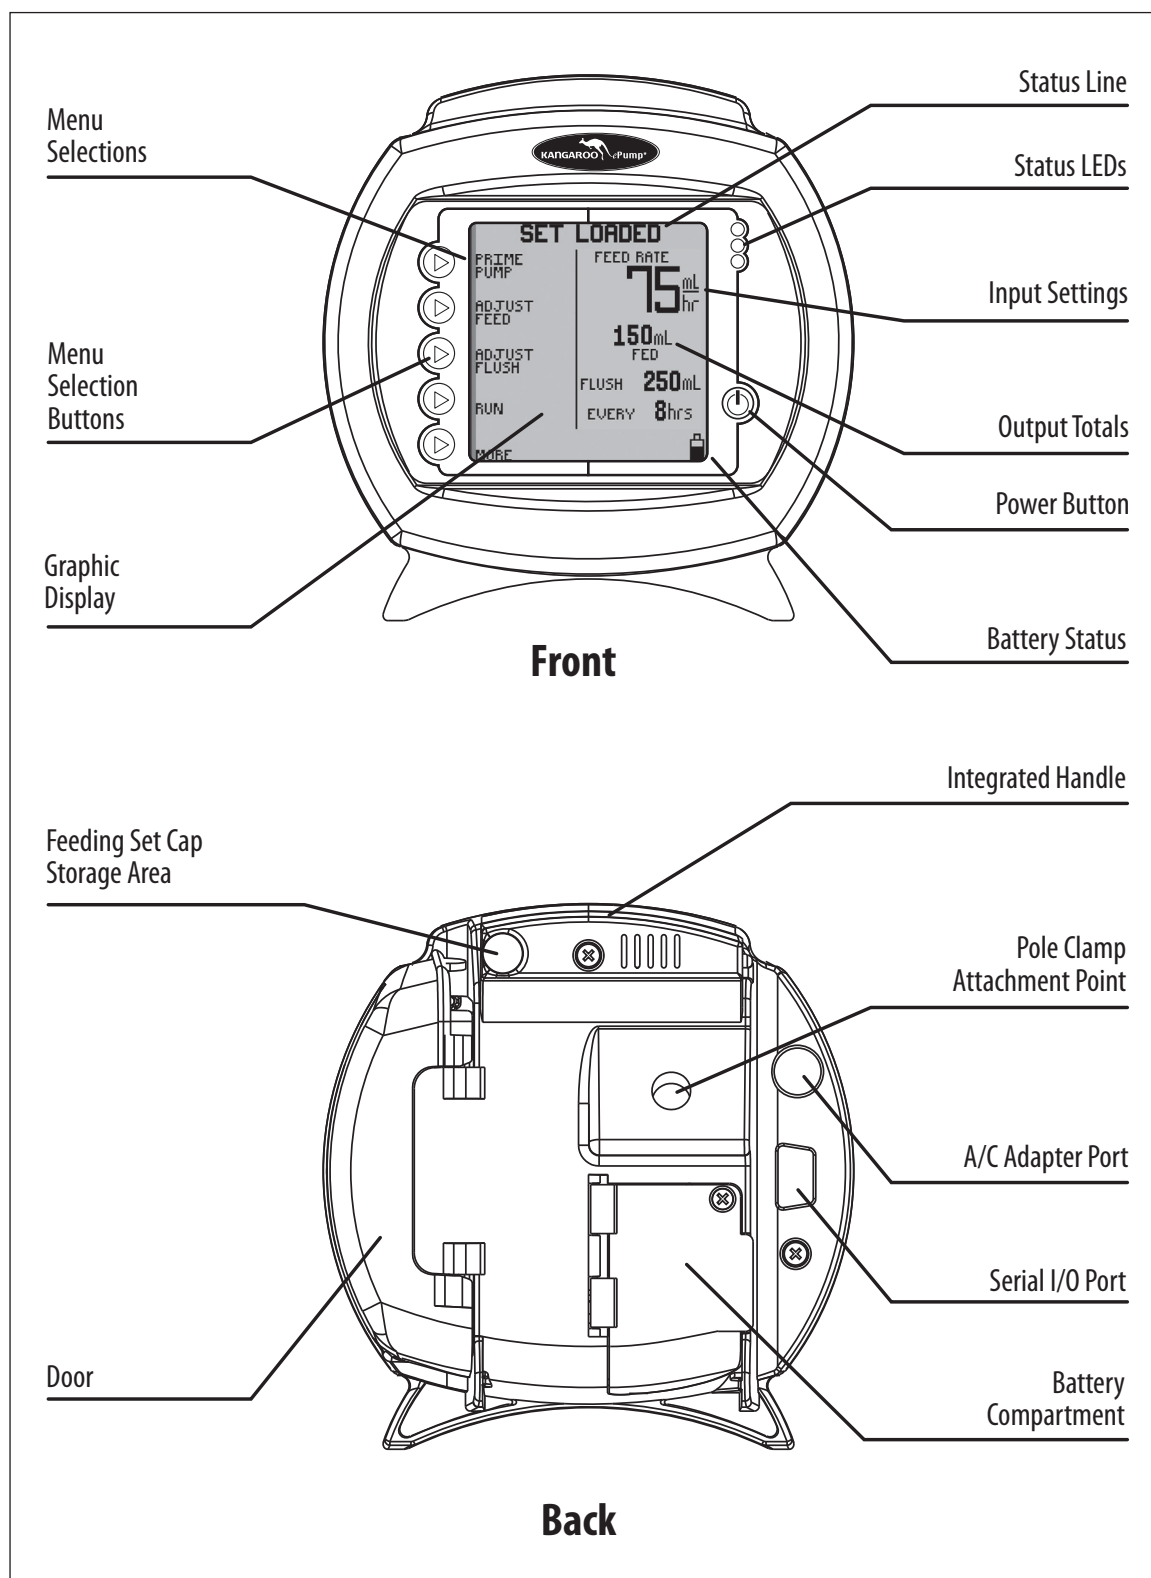

Figure 1A. KANGAROO ePump features, front and rear views.
13. **WARNING:** The serial I/O port (see Figure 1A) is intended only for use by the manufacturer.
Plug the Power Cord into the A/C Adapter Port on the back of the pump. See Figure 1A to locate port on pump. Make note of the location of the pins and tab on the plug to properly orient the plug.